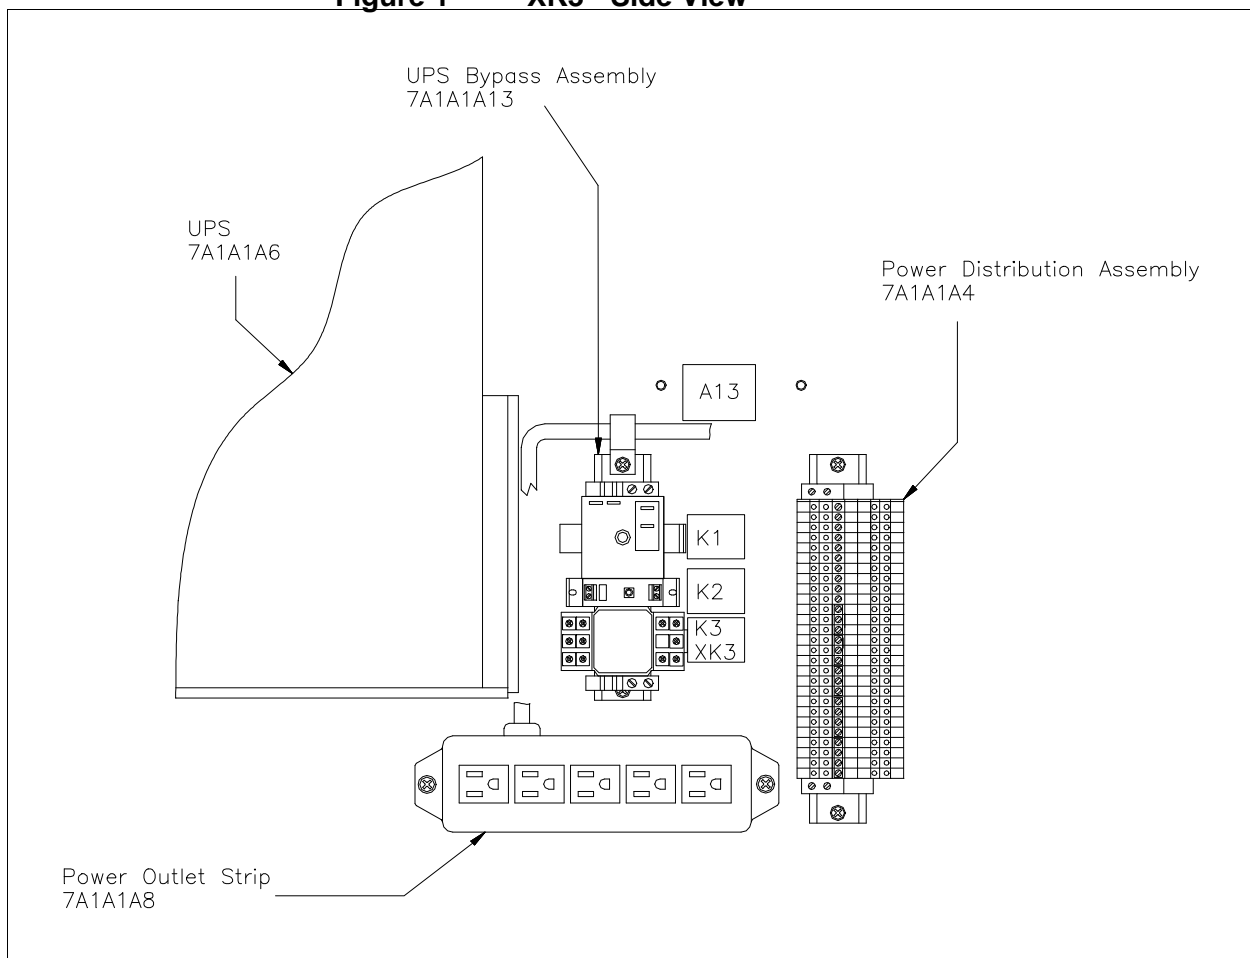

Figure 2 UPS Bypass Assembly Location
7. Slide the digital input/output (I/O) module K2 and high power relay XK3 onto the din rail next to the SSTDR K1. Install the end clamps on each side of the UPS bypass assembly. Refer to figure 2.
9. Reinstall the UPS bypass assembly din rail to the SCA backplate and install UPS bypass labels beside each module as shown in figure 2.